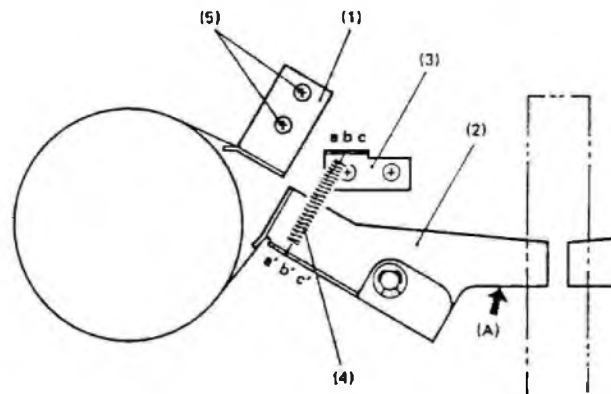

Fig. 5.4
b) Loosen the two screws (5) of the Brake Band Bracket (1), Fig. 5.4, move Lever (17) 3mm upward so that Slide Lever (13) is also shifted upward, then with the brake band touching the drum, move the Brake Band Bracket (1) until the protrusion on Slide Lever (13) just touches the Brake Lever (14). Then, tighten the previously loosened two screws (5).